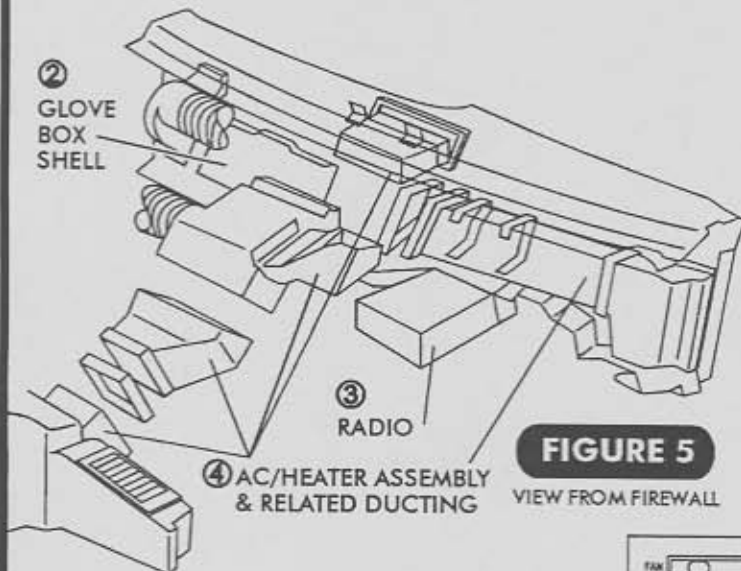

FIGURE 5
- 2. GLOVE BOX SHELL (DISCARD, RETAIN SCREWS). SEE FIGURE 5.
- 3. RADIO. SEE FIGURE 5 (RETAIN).
- 4. AC/HEATER ASSEMBLY AND ALL RELATED DUCTING (DISCARD), RETAIN SCREWS. SEE FIGURES 5 & 6.